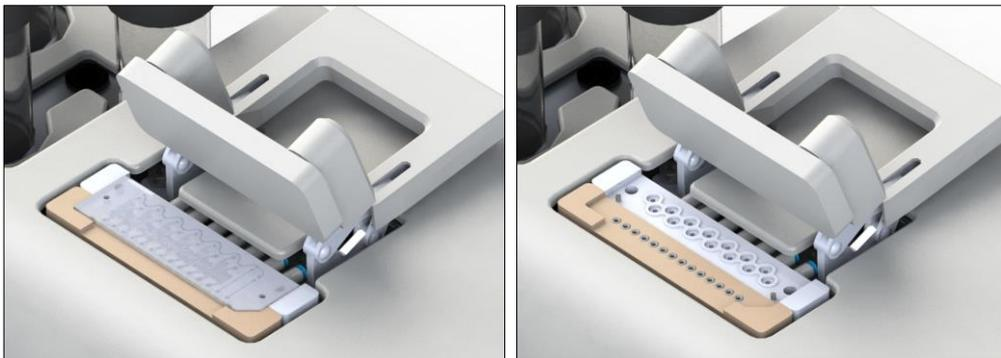

Figure 37) Distribution System opening with chip inside (left), open without chip (right)
3. Manually open the Distribution System with the handles (Figure 37).